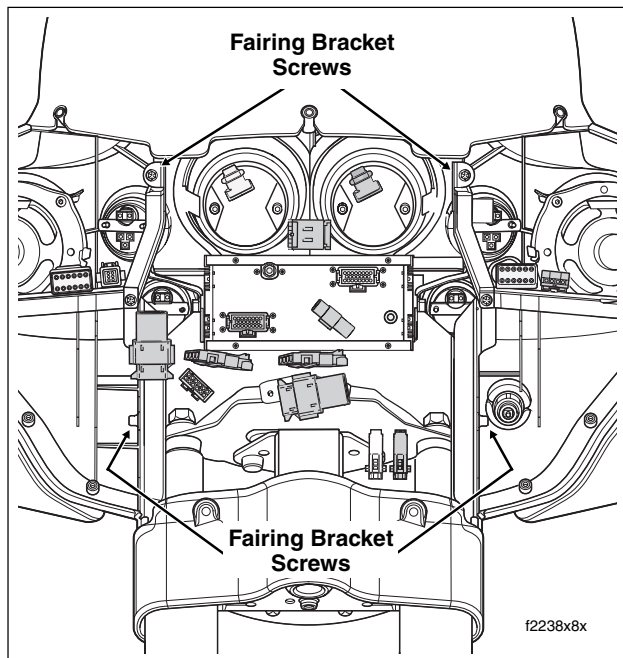

Figure 2-157. Remove Fairing Bracket Screws
24. Remove four socket head screws to free inner fairing from fairing bracket. See Figure 2-157.
6. Install four socket head screws to attach inner fairing to fairing brackets. See Figure 2-157.